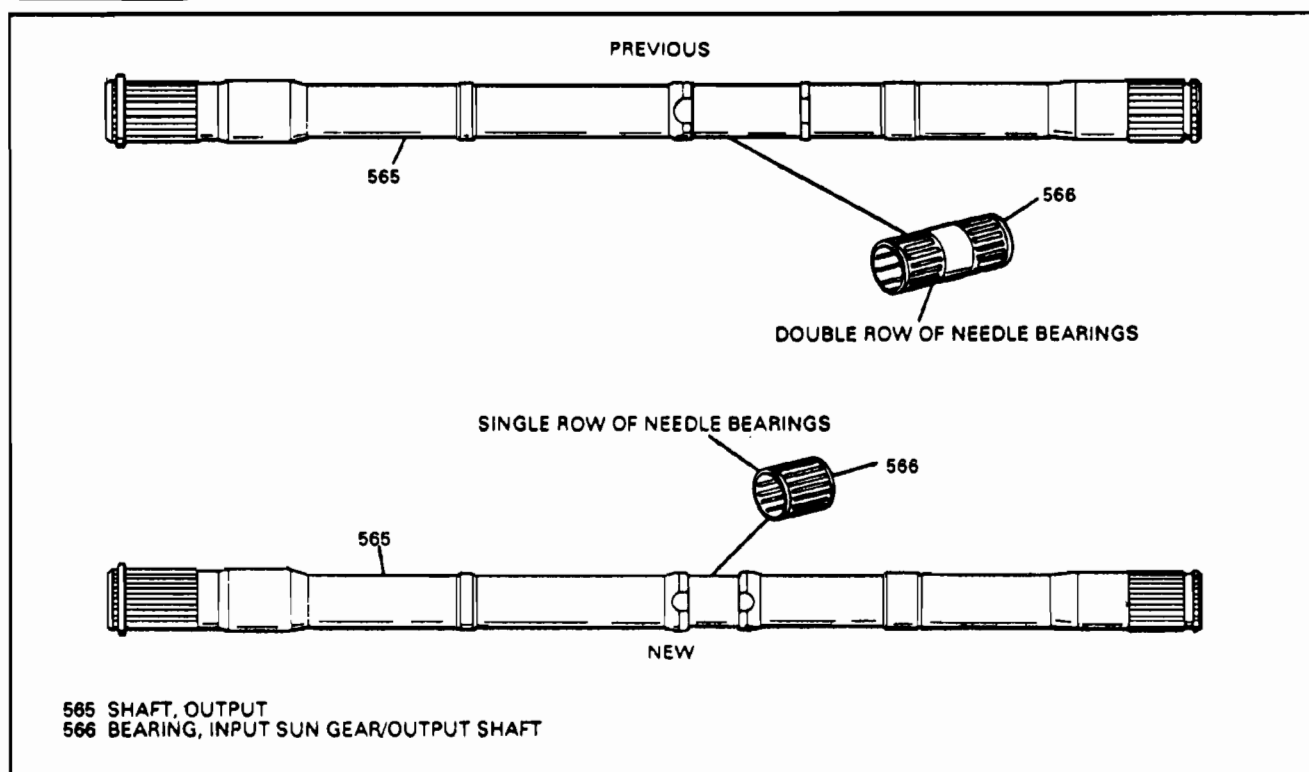

Figure 45
- (1) **OUTPUT SHAFT/BEARING** - The new bearing has a single row of needle bearings instead of a double row, and the output shaft is machined different to accommodate the new bearing (See Figure 45). This change will improve lube oil flow to the 3rd roller clutch and input sprag.